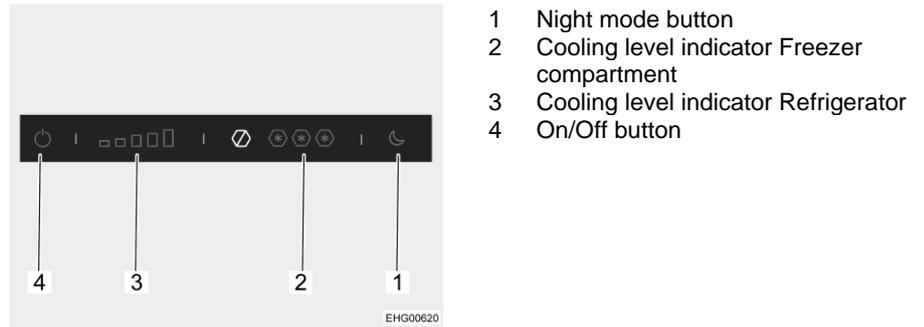

Fig. 92 Operating bar (refrigerator)
- ▷ To prevent a malfunction, do not control the refrigerator on the 7" panel or in the HYMER Connect app and on the operating bar (Fig. 92) at the same time.
**Switching on:** ■ Press the On/Off button (Fig. 92,4) and hold for a few seconds. The blue indicator lamp shows that the refrigerator is working. The cooling level indicator Refrigerator (Fig. 92,3) shows the set cooling level.
**Switching off:** ■ Press the On/Off button (Fig. 92,4) and hold for a few seconds. The blue indicator lamp will go out.
**Setting the cooling level:** ■ Press the desired cooling level for the refrigerator (Fig. 92,3).
**Setting the freezing level:** ■ Press the desired cooling level for the freezer compartment (Fig. 92,2).
**Switching on the night mode:** ■ Press the night mode button (Fig. 92,1). The blue indicator lamp shows that the night mode is active.
**Switching off the night mode:** ■ Press the night mode button (Fig. 92,1). The blue indicator lamp will go out. The refrigerator is working in normal mode again.